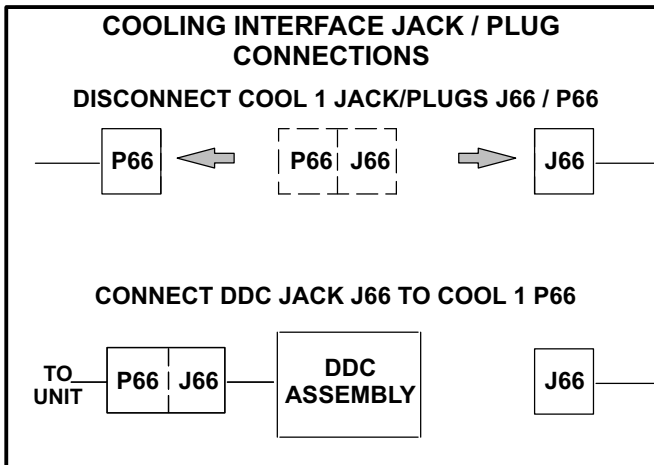

FIGURE 5
- 2- Disconnect unit J66/P66 cool 1 jack/plugs. Connect DDC J66 cool 1 jack to unit P66 cool 1 plug. Unit J66 cool 1 jack to TB1 remains disconnected. See figure 5.